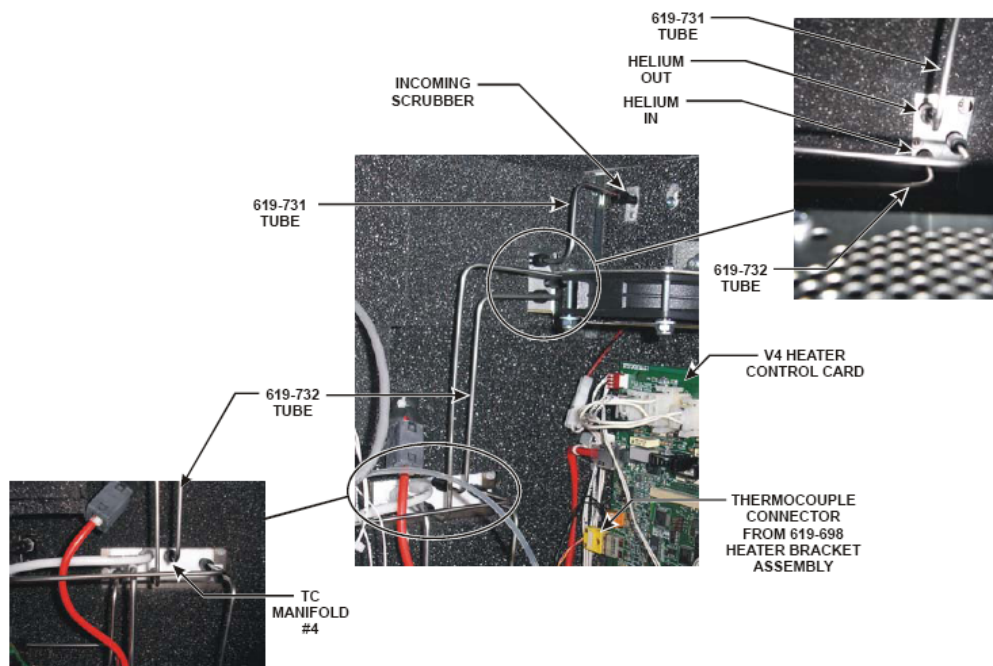

Figure 3-17
7. Refer to figure 3-17 and connect the 619-731 Tube between the incoming scrubber port and the Helium OUT port. Use a 617-484 Nut and 617-485 Ferrule on each end of the tubing. The 617-484 Nuts can be tightened with the 617-486 Nut Tool.
8. Refer to figure 3-17 and connect the 619-732 Tube between the Helium IN port and the TC Manifold #4 port. Use a 617-484 Nut and 617-485 Ferrule on each end of the tubing. The 617-484 Nuts can be tightened with the 617-486 Nut Tool.